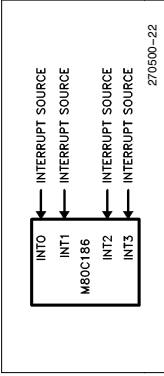

Figure 22. Fully Nested (Direct) Mode Interrupt Controller Connections
When in the fully nested mode four pins are used as direct interrupt requests as in Figure 22. The vectors for these four inputs are generated internally. An in-service bit is provided for every interrupt source. If a lower-priority device requests an interrupt while the in-service bit (IS) is set, no interrupt will be generated by the interrupt controller. In addition, if another interrupt request occurs from the same interrupt source while the in-service bit is set, no interrupt will be generated by the interrupt controller. This allows interrupt service routines to operate with interrupts enabled without being themselves interrupted by lower-priority interrupts. Since interrupts are enabled, higher-priority interrupts will be serviced.